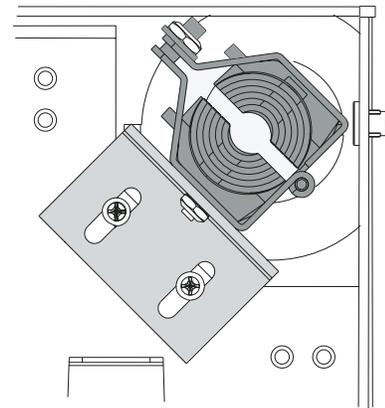

Figure 7
**NOTE:** To secure cable entering from the rear of the cabinet, attach the strain-relief bracket to the inner tray directly above the cable entry knockout (Figure 7). Repeat previous steps to install cable into the UCC clamp.